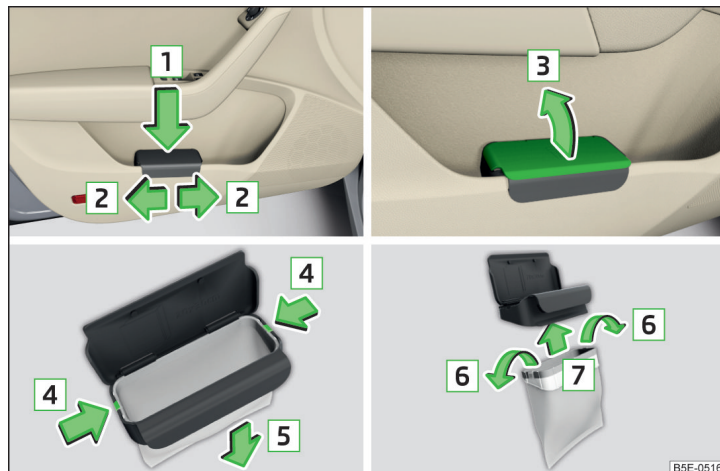

Fig. 86 Waste container: Insert and move / open / replace bag
- Push the waste container to the back in the direction of the arrow **1** » Fig. 86.
- Remove the waste container in the opposite direction to the arrow **1** » Fig. 86.
- Open the waste container in the direction of the arrow **3** » Fig. 86.
- Push the two catches of the inner frame out of the container body in the direction of the arrow **4** » Fig. 86.